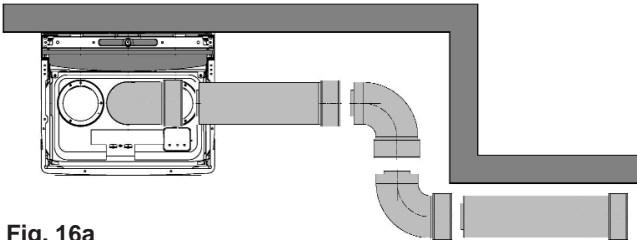

Fig. 16a
### 5.5.1.2 Extending the flue (see fig. 16a)
Additional bends & extensions have push-fit connections, care should be taken to ensure that the correct seal is made when assembling the flue system. Connect the required number of flue extensions or bends (up to the maximum equivalent flue length) to the flue terminal (see fig. 16a).
NOTE: When cutting an extension to the required length, you must ensure that the excess is cut from the plain end of the extension (see fig. 16a). Remove any burrs, and check that all seals are located properly.
If the vertical flue requires extension/s or additional bend/s, connect the required number of flue extensions or bends (up to the maximum equivalent flue length) between the boiler and vertical flue assembly (see fig. 16a).
**NOTE:** When cutting an extension to the required length, you must ensure that the excess is cut from the plain end of the extension (see fig. 16a). Remove any burrs, and check that any seals are located properly.